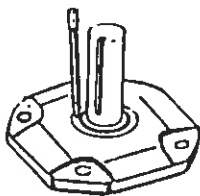
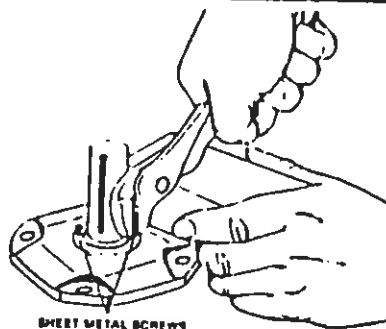

Figure 1
Figure 2
- C. See Figures 1 through 4—To replace seals without dismantling reducer, proceed as follows:
Do not damage shaft; new seals will leak if seal contacting surface is marred. Use punch and place two or more holes in steel casing of seal, Figure 1. (The steel casing may be rubber coated) Insert sheet metal screws, leaving the heads sufficiently exposed so they can be pried up or grasped with pliers, Figure 2. Do not drill holes because chips may get into the unit.